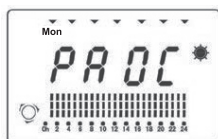

Fig. 13
- Repeat steps a) and b) for each of the remaining days of the week or return to Entering personal settings for each day of the week (Hold the Enter (Confirm) button pressed for about 3 seconds (fig. 13)